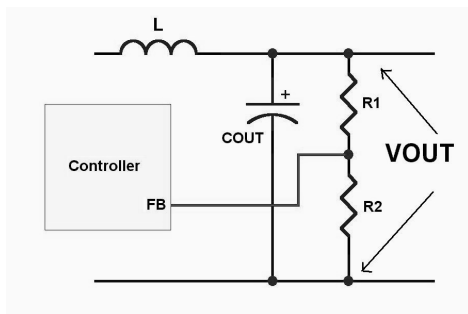

Figure 5. The voltage feedback
- The blue segment acts as a voltage feedback. As figure 5 shows,